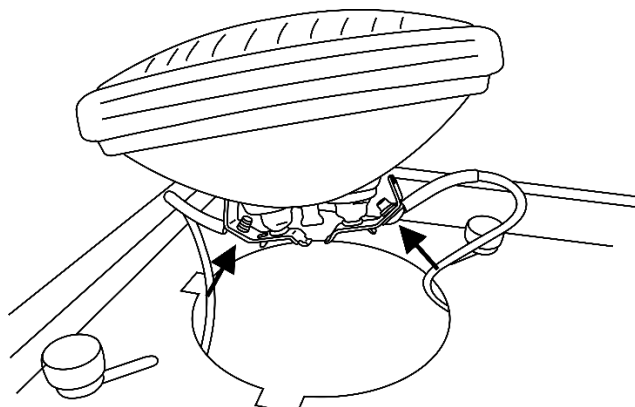

Fig. 06
- 06) Take the 2 cables and by using the screws, fit them to the back of the lamp. Place the lamp in the housing (Fig. 06).